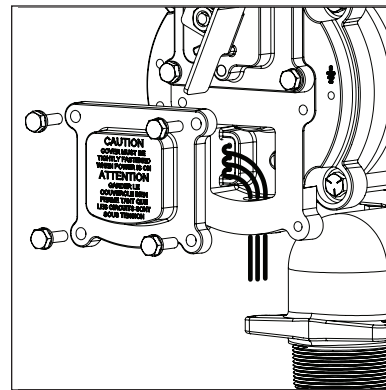

Figure 2
1. Remove electrical coverplate and O-ring (Figure 2). Install conduit and cable from switchbox to pump electrical box. Wiring must be in accordance with Class I, Division 1 requirements in the applicable national electrical code. Note that the lead wires are factory-sealed isolating the motor from the junction box.